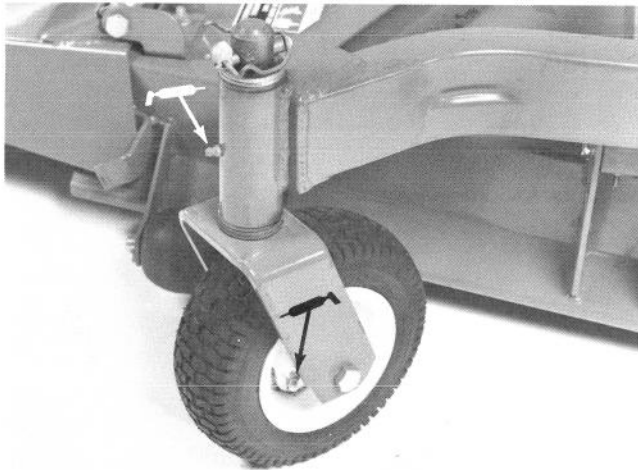
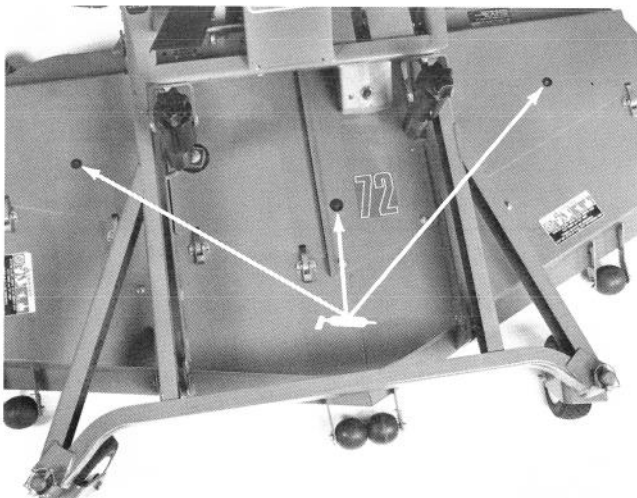

Figure 12
Figure 13
1. The cutting unit lubrication points are: castor spindle bushings (Fig. 12); castor wheel bearings (Fig. 12); blade spindle bearings (Fig. 13) and cutting unit frame pivot bushings (Fig. 15).
6. Pump grease through grease fitting on wheel (Fig. 12) until bearing is greased thoroughly.